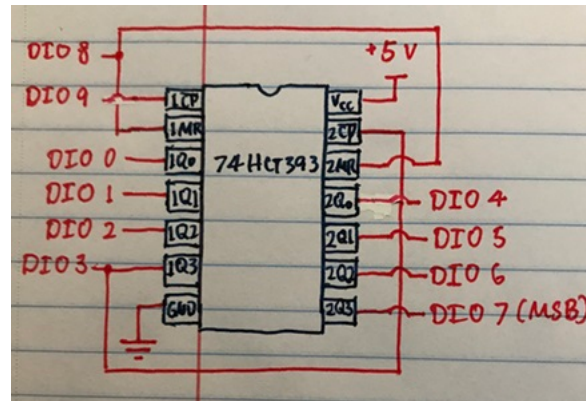

Figure 10: IC pinout diagram of counter for testing operation of counter
- On WaveForm's Logic app, I set up DIO pins 0-7 in the BUS signal form, with 7 as the Most Significant Bit (MSB) and DIO 0 as the Least Significant Bit (LSB) mapped as seen in Figure 10